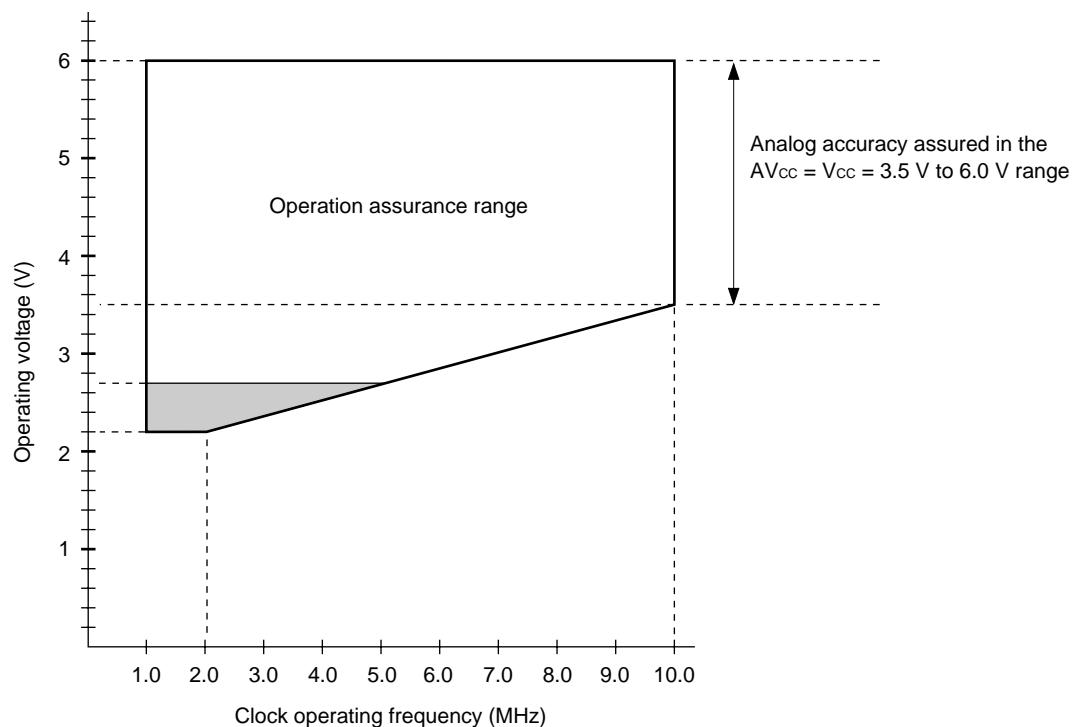

Figure 1 Operating Voltage vs. Clock Operating Frequency
*: These values vary with the operating frequency and analog assurance range. See Figure 1 and “5. A/D Converter Electrical Characteristics.”
Figure 1 indicates the operating frequency of the external oscillator at an instruction cycle of $4/F_c$.